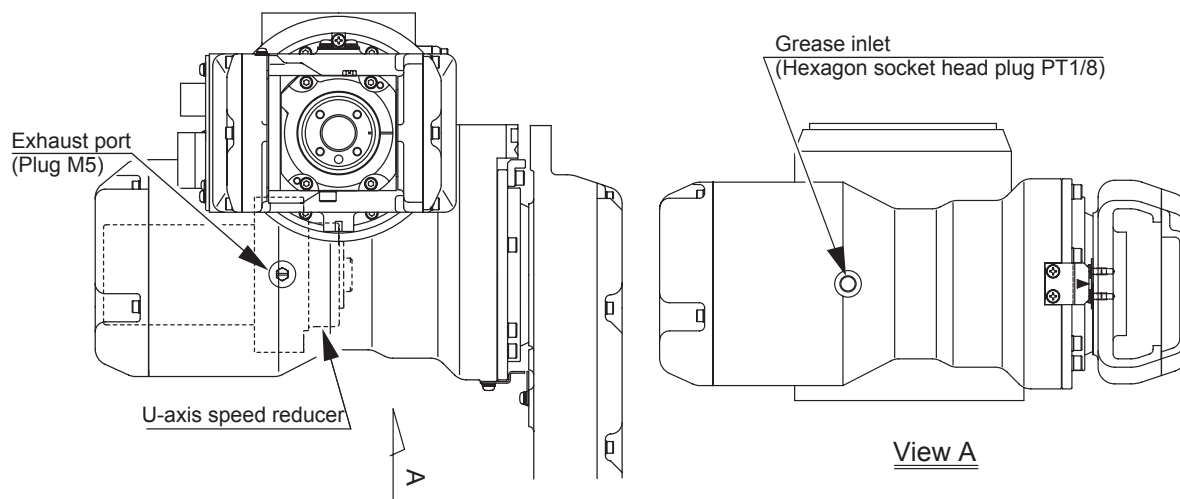

Fig. 25 U-Axis Speed Reducer Diagram
■ Grease Replenishment (Refer to " Fig. 25 U-Axis Speed Reducer Diagram ".)